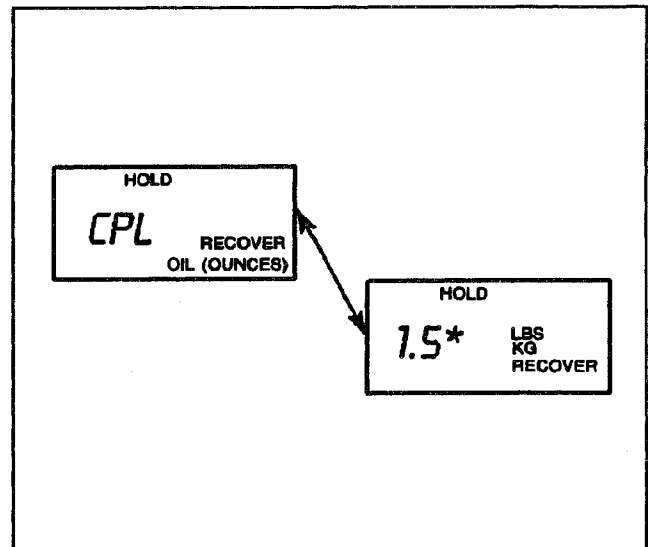

Figure 20—Refrigerant Recovery Display at End
12. At the end of the initial recovery process, the display shows "CPL" and then alternately flashes the weight of refrigerant recovered and "OIL/OZ." ("OIL/GMS") (Figure 20).